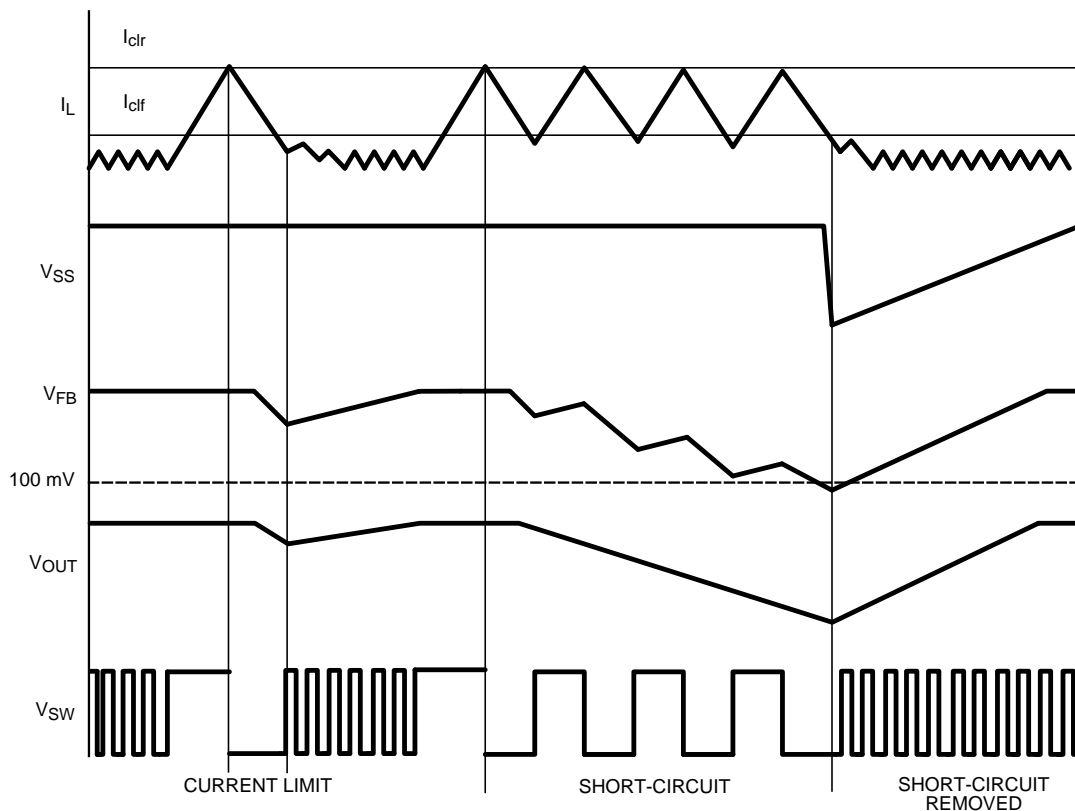

Figure 23. Current Limit Conditions
A current limit condition will cause the internal soft-start voltage to ramp downward. After the internal soft-start ramps below the feedback (FB) pin voltage, (nominally 0.6 V), FB begins to ramp downward, as well. This voltage foldback limits the power consumption in the device, thereby protecting the device from continuously supplying power to the load under a condition that does not fall within the device SOA. After the current limit condition is cleared, the internal soft-start voltage ramps up again. Figure 23 shows current limit behavior with V_{SS} , V_{FB} , V_{OUT} and V_{SW} .